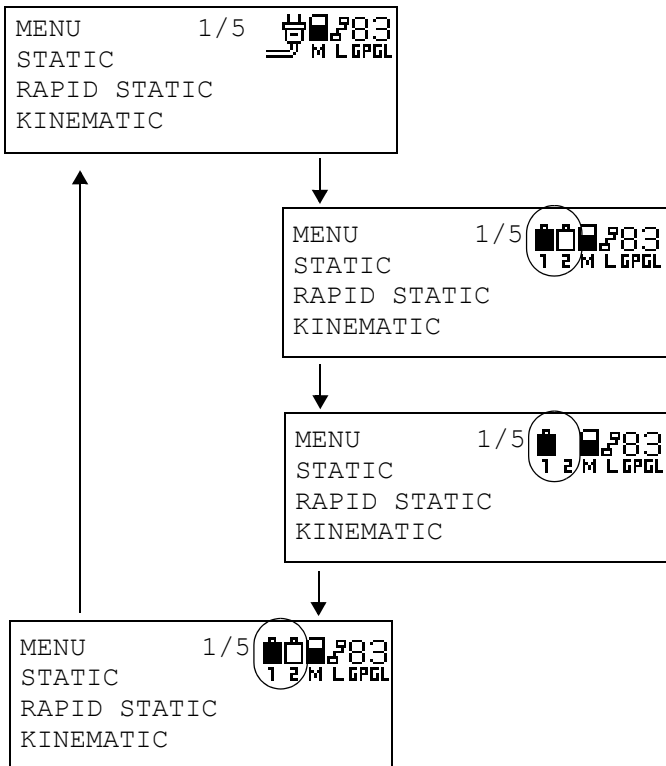

Figure 2-8. Display – Charging with a Bad Battery
- Run charge under way with bad battery (Figure 2-8):